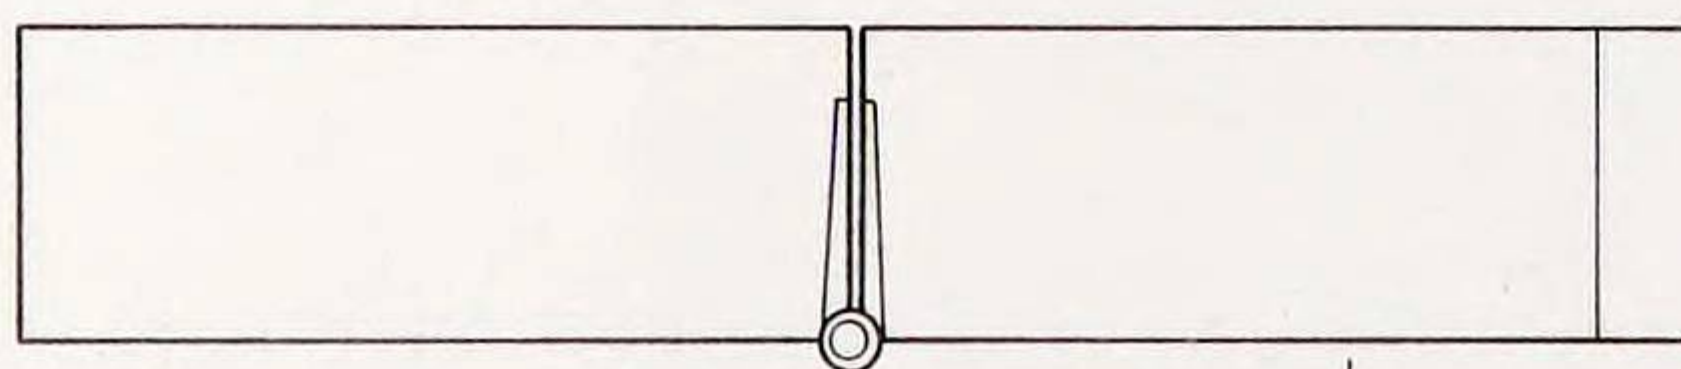

Fig. 4 Hinging the gate frame to the vertical centre stiles
6. The hinges will have to be fitted carefully so that the long stile of the gate which makes the leg fits into the correct position when opened (Fig. 4). The hinge may have to be adjusted to ensure a good fit. When the hinging is correct, remove the gates, finish the components and refix.